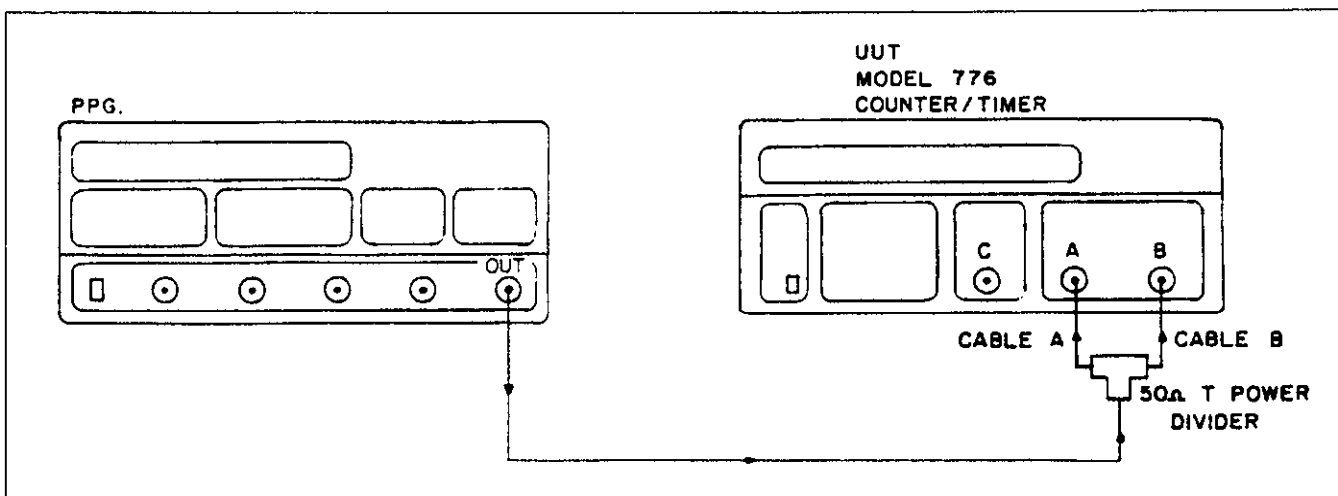

Figure 5-9. Phase A to B Test Set-up.
1. Connect the test equipment as described in Figure 5-9. It is essential that both cables to channels A and B are exactly equal in length.